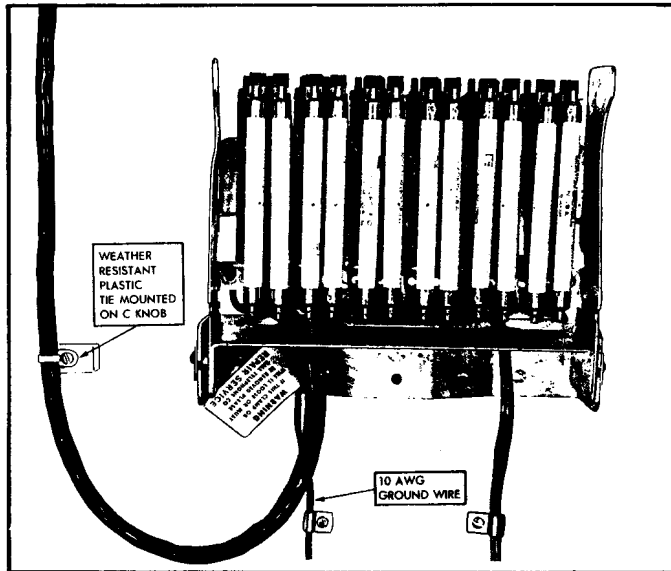

FIGURE 14. Typical Installation of U-Type Multiple Fuse Protector (Cover Removed)
h. Figures 14, 15, and 16 show a typical installation of the multiple type fused protector.